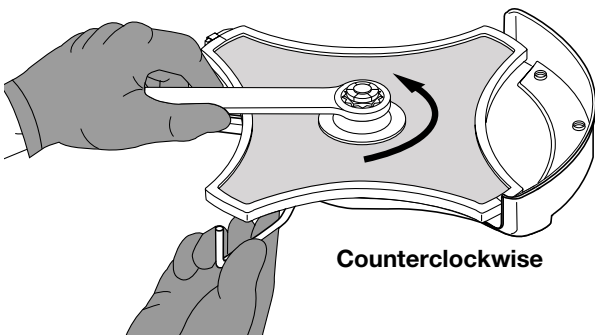

Fig. 13
- Tighten counterclockwise against the blade while holding the locking rod (Fig. 13).